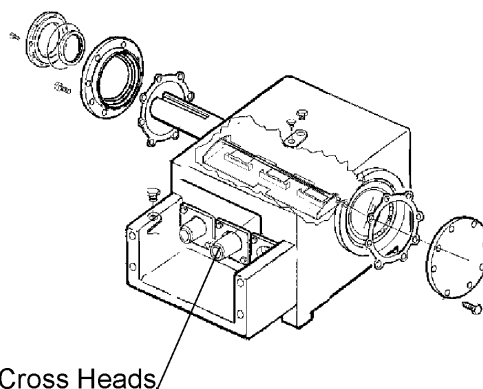

Figure 63 Pull Cross Heads
15. To avoid interference with removal of crankshaft, pull out plunger stubs (end of cross heads) to make sure cross heads are forward as far as possible - cross heads will project somewhat out front of frame. See Figure 63.